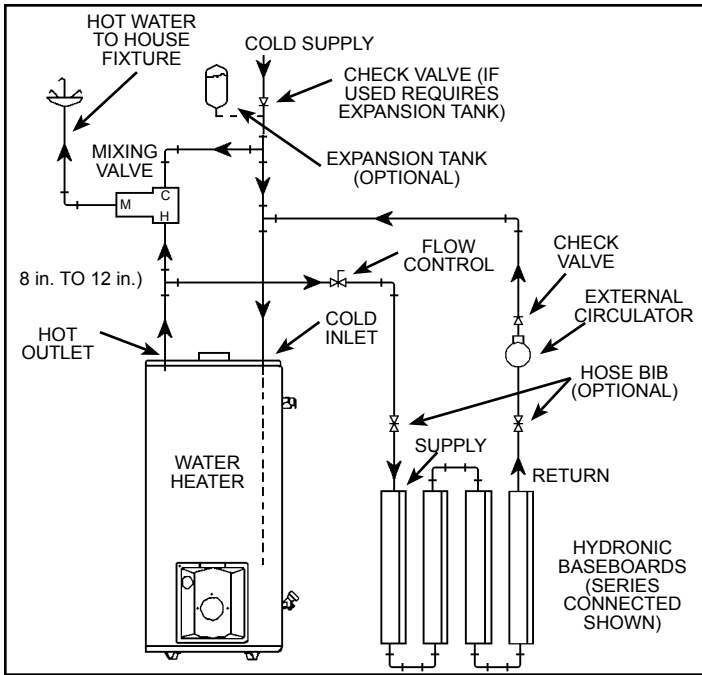

Figure 20. Combo Heating - Baseboard
2. A hydronic baseboard (finned tube) loop (Figure 20).